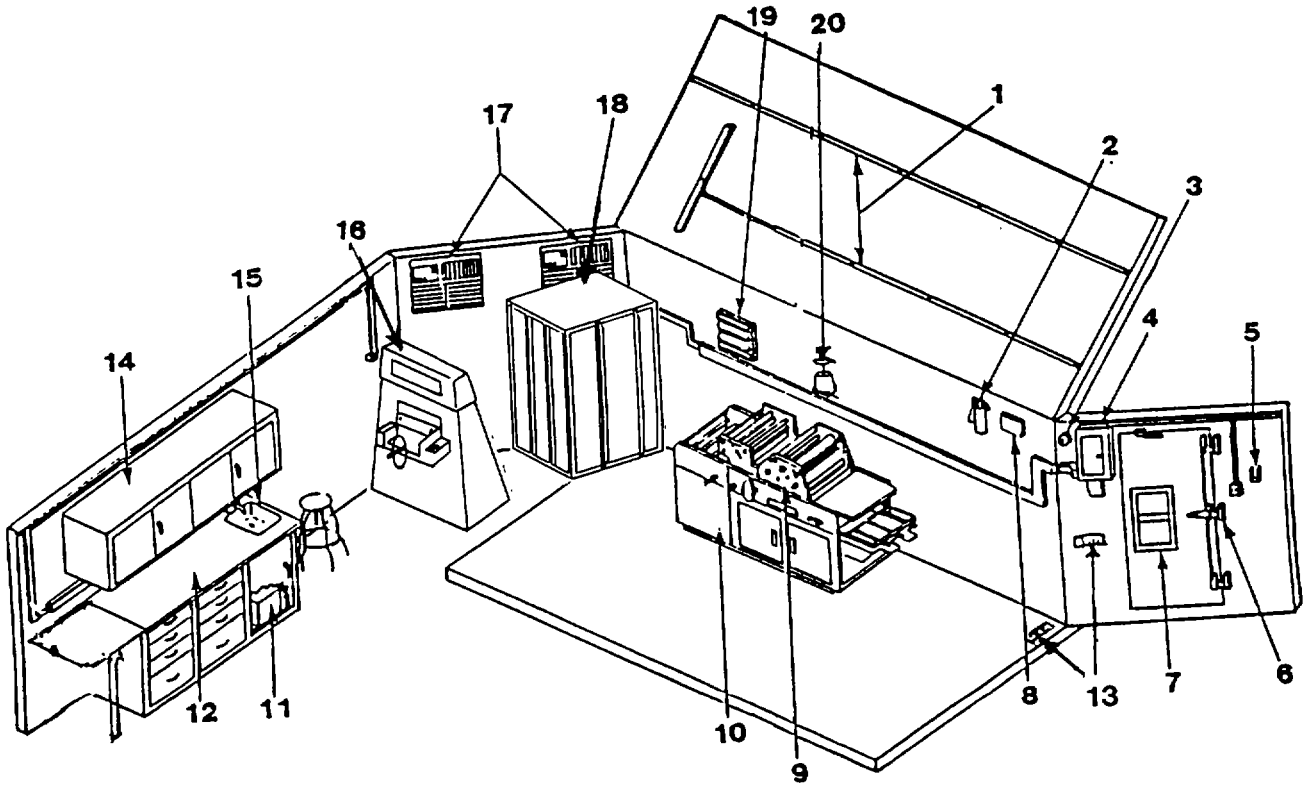

Figure 1-3. Location and Description of Major Components,
b. Press Shelter Interior. Refer to Figure 1-3 for location of major components.
- (1) Lamp Assemblies. Provides fluorescent light for shelter.
- (2) Fire Extinguisher. A class 2-B dry chemical type extinguisher suitable for all types of fire, with the exception of LO (liquid oxygen) generating equipment.
- (3) Blackout Warning Buzzer. Along with exterior blackout switch provides a blackout warning system.
- (4) Main Power Service Box. Contains circuit breakers and distribution terminals for shelter electrical system.
- (5) Telephone Bracket. Bracket used to hold field telephone.
- (6) Door Blackout Pin. Provides a means of securing door during blackout periods to prevent the door from being inadvertently opened.
- (7) Fresh Air Filter. A foam-type air filter permits filtered outside air to enter shelter when door is closed and exterior weather cover is open.
- (8) First Aid Kit. A general purpose 12 unit first aid kit.
- (9) Color Press. Attaches to and is used in conjunction with offset duplicating machine to permit printing of two colors in one operation.
- (10) Duplicating Machine and Stacker. An offset process type duplicating machine whereby the image on the master receives moisture from the dampener and ink from the inker for every revolution of the master cylinder. Stacker used to jog and stack large amounts of paper copy.